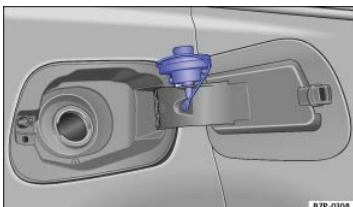

Fig. 177 Fuel cap placed on the open fuel filler flap.
- Unscrew the fuel filler cap counterclockwise remove. Use the receptacle on the filler flap hinge to hold the cap while refueling ⇒ Fig. 177.
The correct fuel grade for your engine is shown on a sticker located on the inside of the fuel filler flap ⇒ Fig. 177.